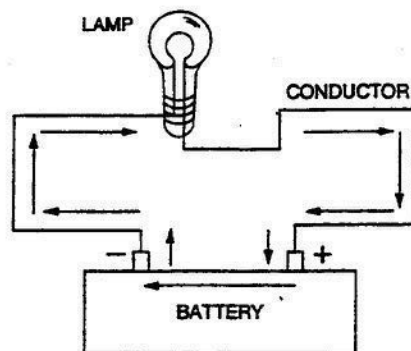

Figure 2-8. The direction of electron flow from a source of EMF.
**Current flow.** As explained previously, an electric current is said to flow when electrons drift or move along a conductor. This current is a direct result of an electromotive force, or difference of potential, and continues to flow so long as the difference of potential exists along the conductor. This idea is illustrated in figure 2-8. Electrons are flowing through the conductor and the lamp, from the negative (-) terminal to the positive (+) terminal of the source of EMF. These terminals are maintained negative and positive, respectively, by the action within the source of EMF (the battery in this case). As electrons leave the negative
At this point, it is important to clear up any confusion you may have regarding the direction of current flow. Remember from our study of fields of force that lines of force move from a positively charged body to a negatively charged one. Looking again at figure 2-8, you can see that electron movement *within* the EMF source is from positive to negative. It is only through the conductor that you see current flow from negative to positive. Thus, there is no contradiction here.